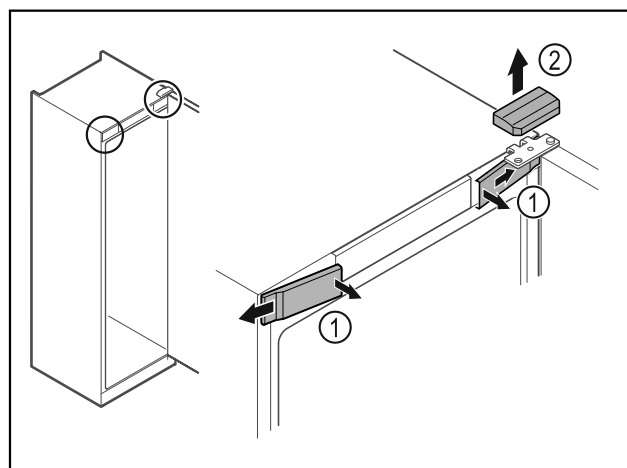

Fig. 4
- Unlatch the front covers Fig. 4 (1) on the inside and remove them sideways.
- Lift off the upper cover Fig. 4 (2).